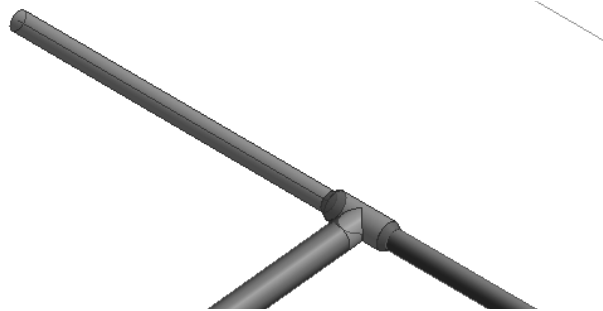

Figure 2–83
5. Delete the highlighted pipe, tee, and transition connectors between the pipes, as shown in Figure 2–83.